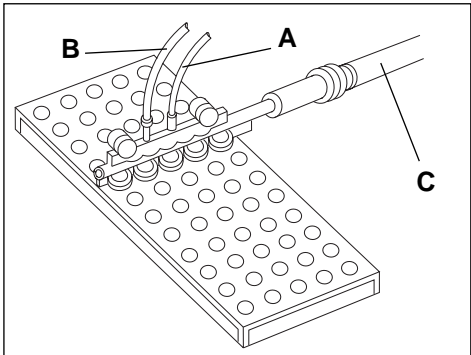
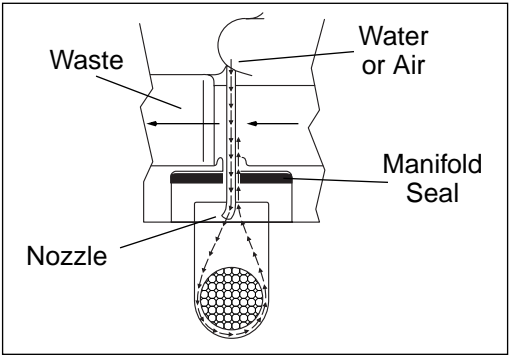

Figure 1.8
Figure 1.9
The Wash Function is accomplished by a wash station comprised of a wash system connected to the remote Wash & Waste Cart. The manifold washes one row of wells at a time. The manifold seals the row of wells (Figure 1.8), then delivers pressurized water through the water line (A) followed by compressed air through the air line (B). This forces the water out of the wells through the manifold's waste ports (C). The shape and angle of the jet nozzle forces water to hit the side of the well and spin the bead. The pressurized air flow follows the same pattern (Figure 1.9). When the wash is complete, the manifold is raised to allow the next row to move into position.